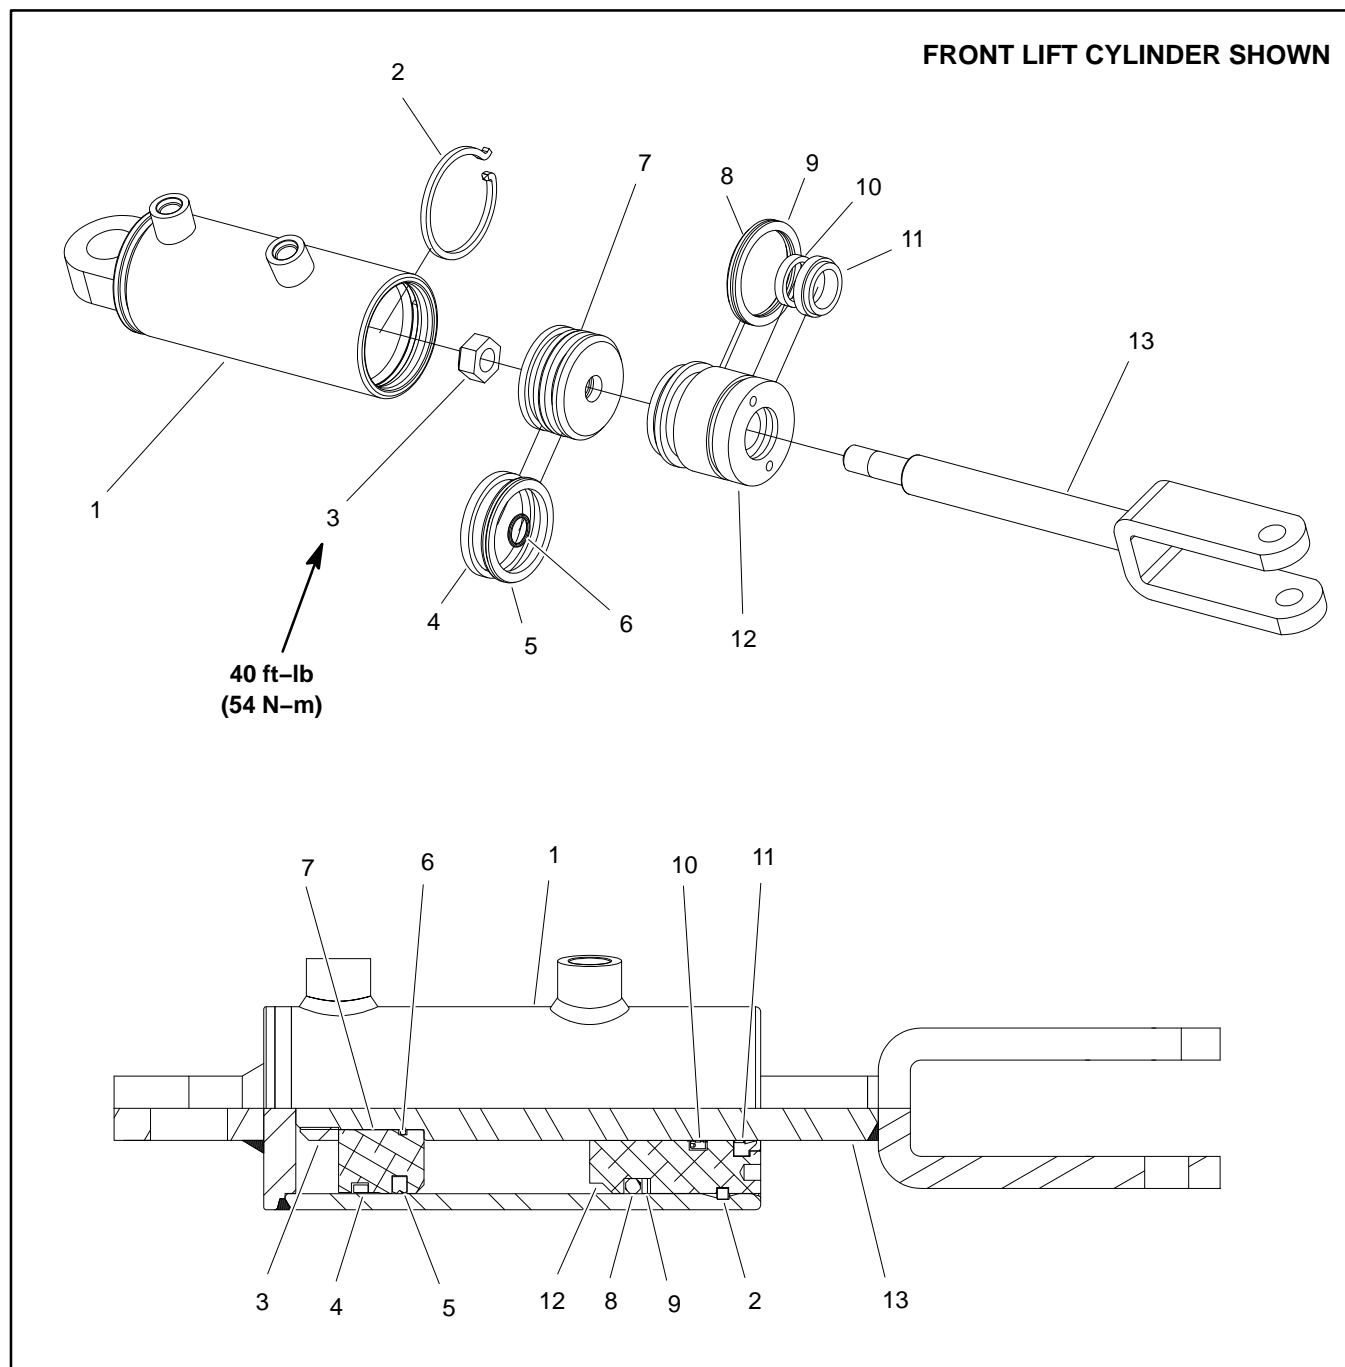

Figure 69
**Disassembly (Fig. 69)**
3. Using a spanner wrench, rotate head clockwise until the edge of the retaining ring (item 2) appears in the barrel opening. Insert a screwdriver under the beveled edge of the retaining ring to start the retaining ring through the opening. Rotate the head counter-clockwise to remove retaining ring from barrel and head.
**Assembly (Fig. 69)**